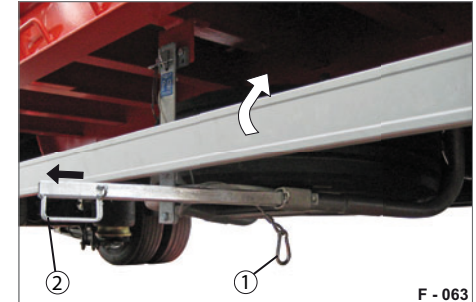
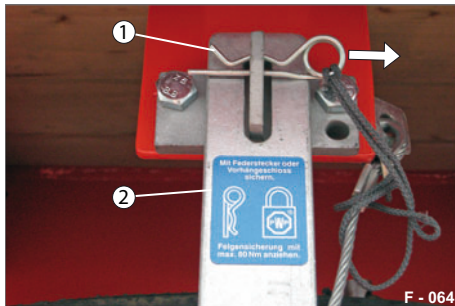

Fig. 81 Pulling out sliding lever
Fig. 82 Releasing safety latch
- Release the spring hook (Fig. 81/1).
- Completely pull out the sliding lever (Fig. 81/2).
- ▶ Remove the spring pin (Fig. 82/1) or padlock.
- ▶ Pull the safety latch (Fig. 82/2) towards you and hold the bracket down with the sliding lever (Fig. 81/2).